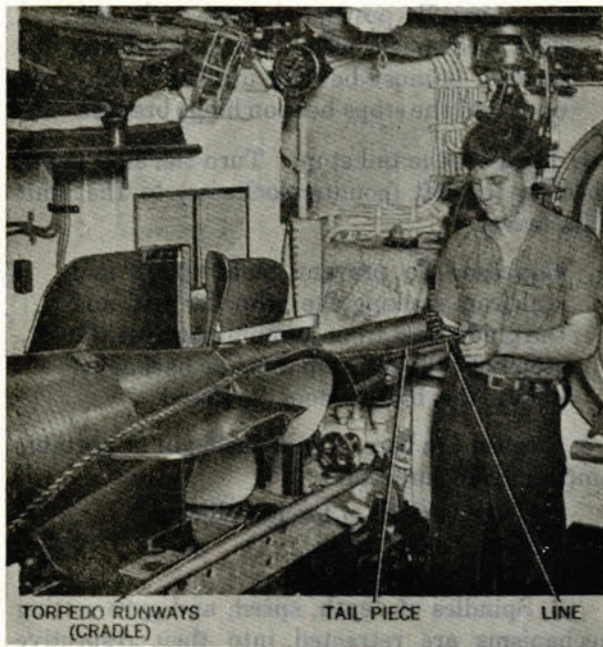

Figure 225—Leading Line Around End of Pulley.
- c. Lead line through pulley on the tail piece, figure 225.